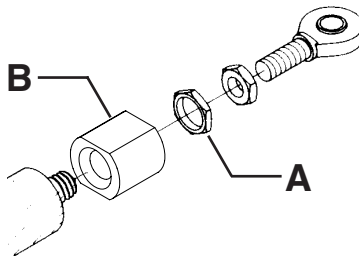

Fig. 43
3. Loosen jam nut (A) and adjust collar (B) IN to move boom out away from cab or OUT to move boom in toward cab. (See fig. 43)
4. Secure jam nut (A).